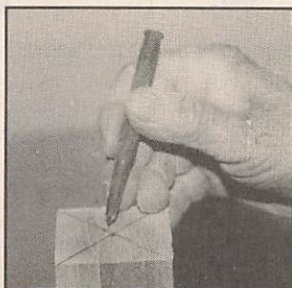

Fig. 1. Punching a "dimple" in the blank's center.
Step 1. Use an awl or punch to make a "dimple" in the center of the wood blank (see Fig. 1).